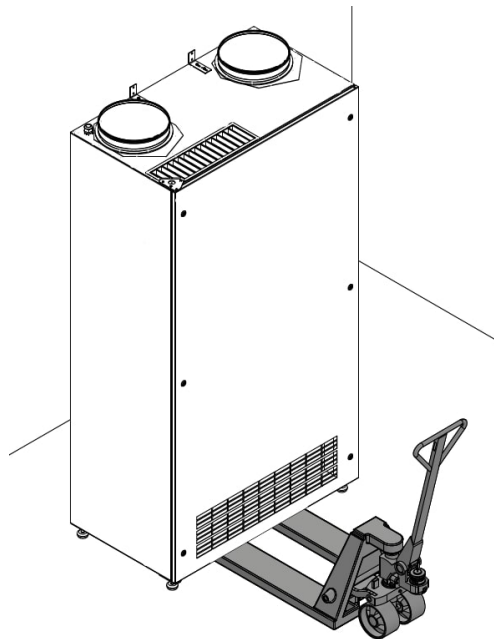

Figure 5: Move the unit into place
2. Raise the unit into an upright position and place it in its final position, as close to the wall as possible. A pallet loader can for instance be used to move the unit, see Figure 5 below.